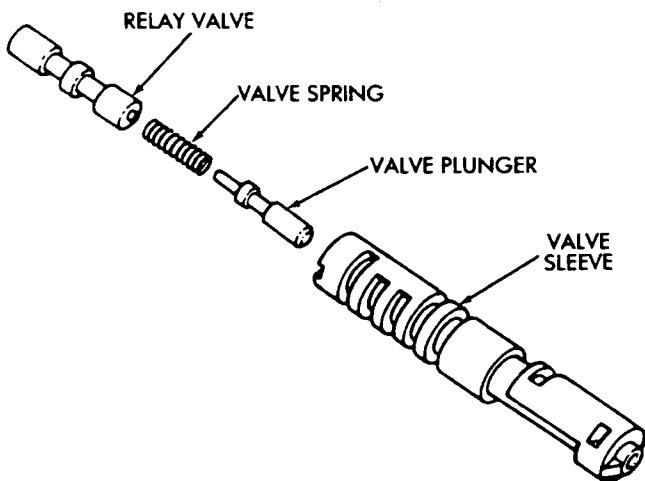

Fig. 9 Lockup Relay Valve Components
(9) Remove lock-up relay valve, spring and plunger from talve sleeve (Fig. 9).
(7) Assemble lock-up relay valve. Install spring and plunger in valve sleeve (Fig. 9). Then install assembled valve in sleeve.